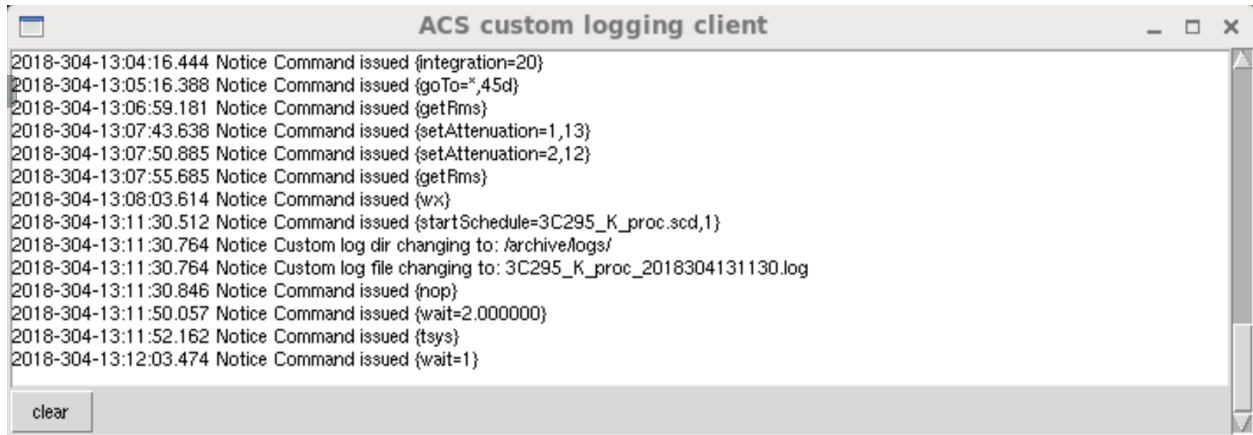

Fig.4.8: The **Logging Display** shows the log messages related to the observation. New messages are shown over the previous ones.
- **ACS custom logging client** (Fig.4.8)